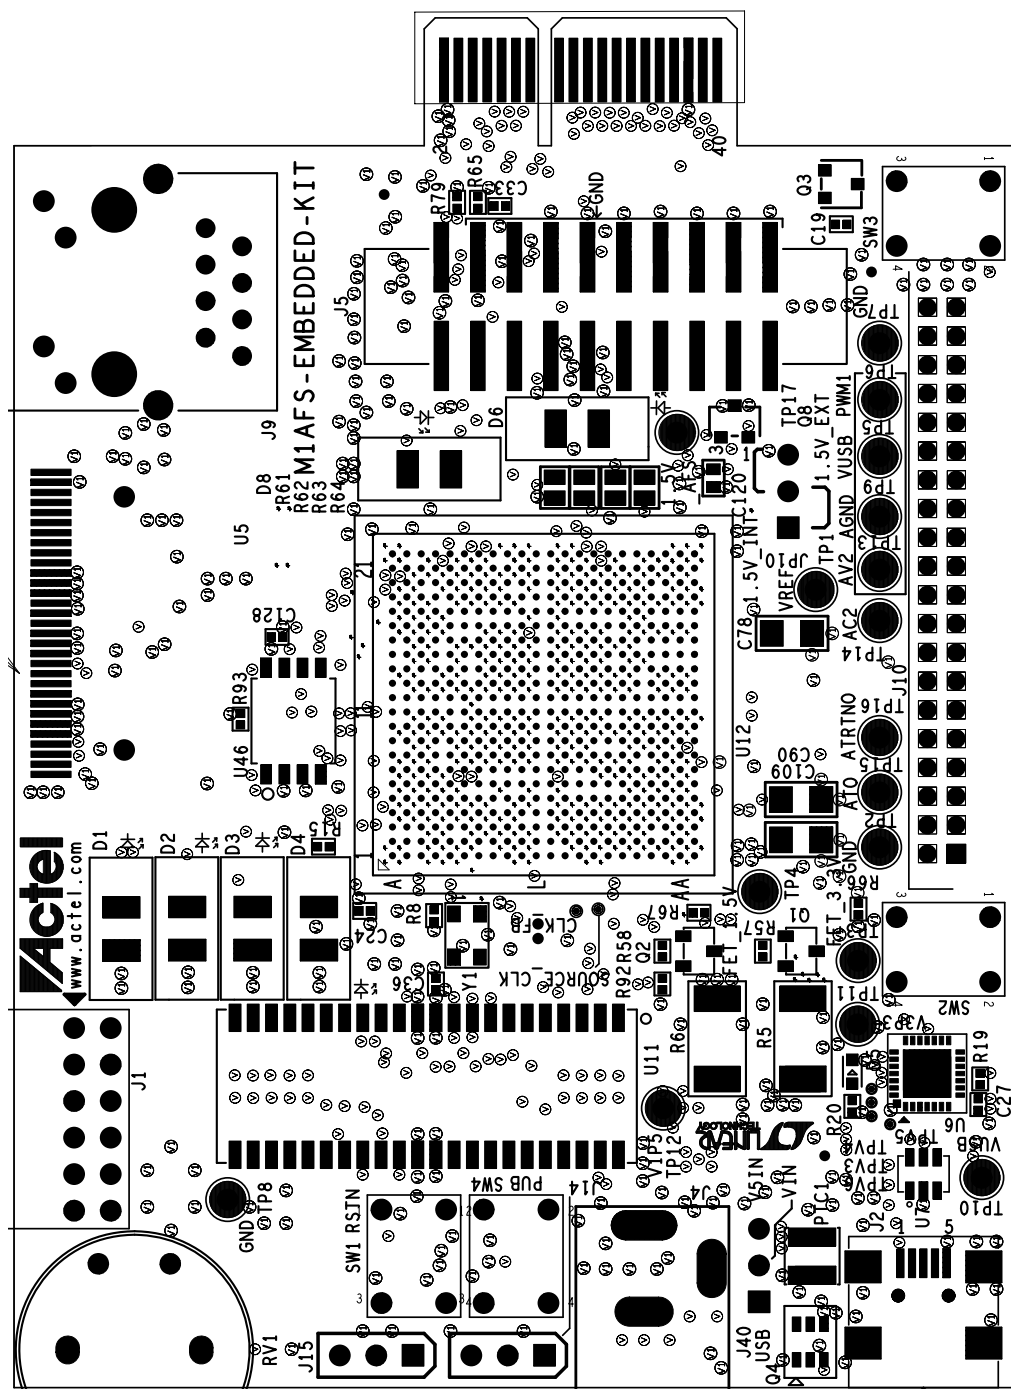

Figure 1-2 • Top Silkscreen
1. Top signal (Figure 1-2 on page 1-9)